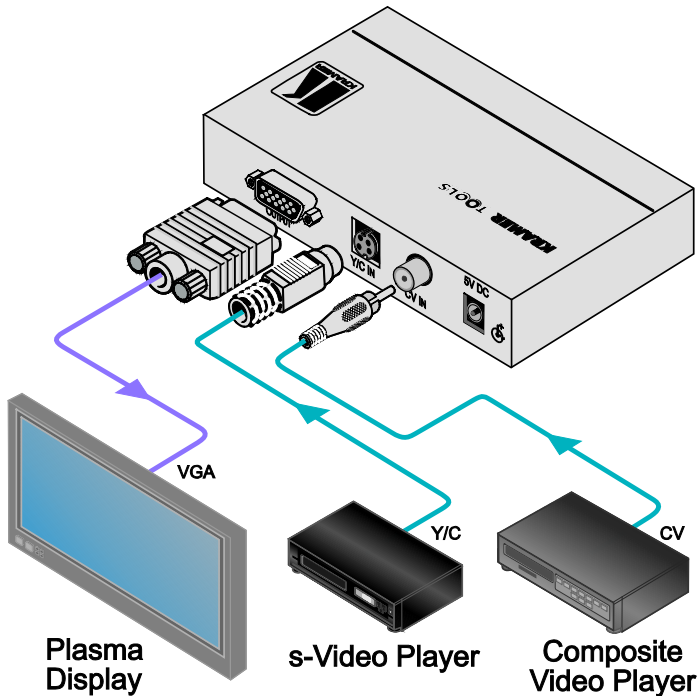

Figure 2: Connecting the VP-409
To connect the VP-409, as illustrated in the example in Figure 2, do the following1:
3. Connect the 5V DC power adapter to the power socket and connect the adapter to the mains electricity (not shown in Figure 2).